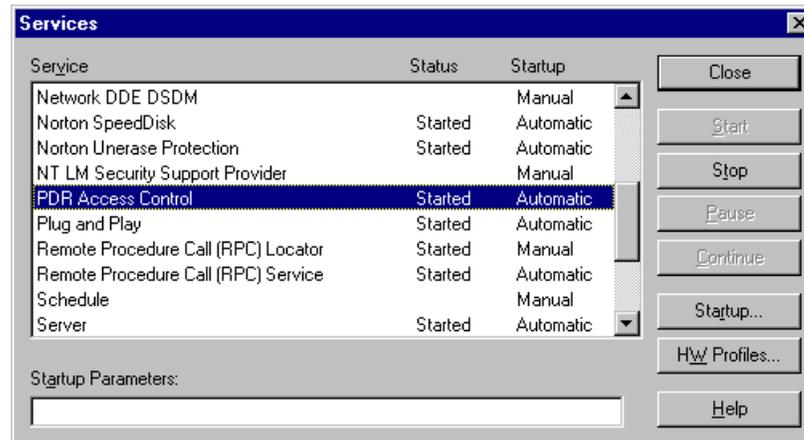

Figure 99. Services dialog box
4. Double-click the **Services** icon. The Services dialog box appears (Figure 99).